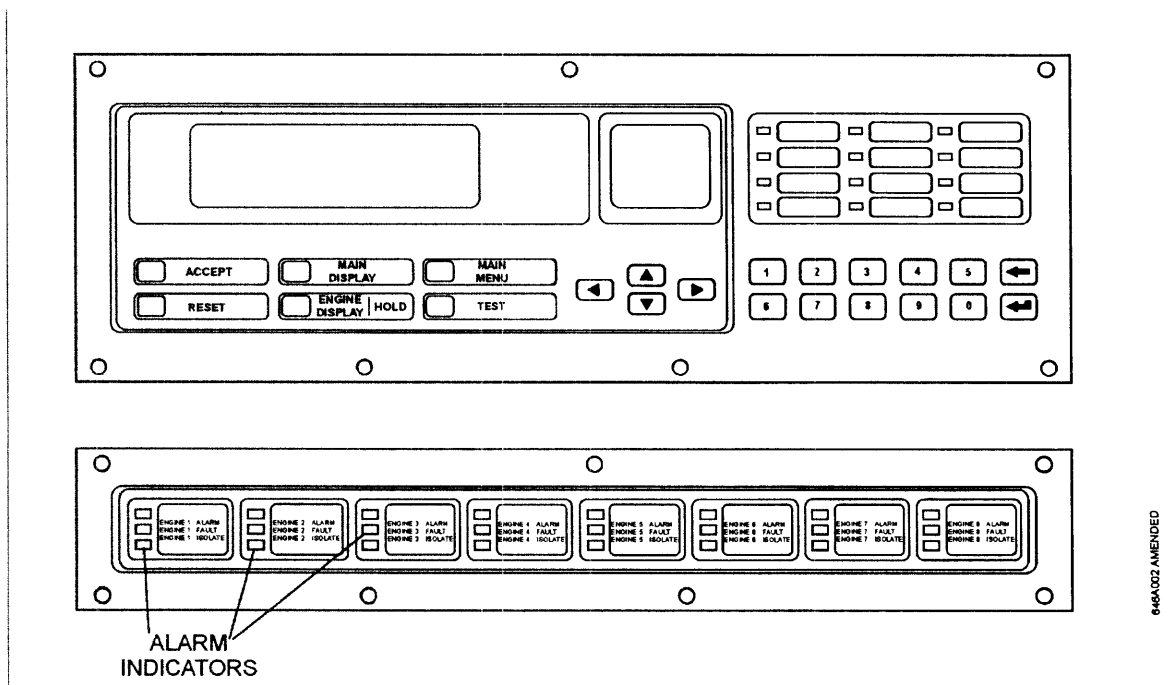

Figure 3: Display and Controls
- 2.2.10 Check the location and function of the main controls on the front of the Control Unit (refer to Figure 3).